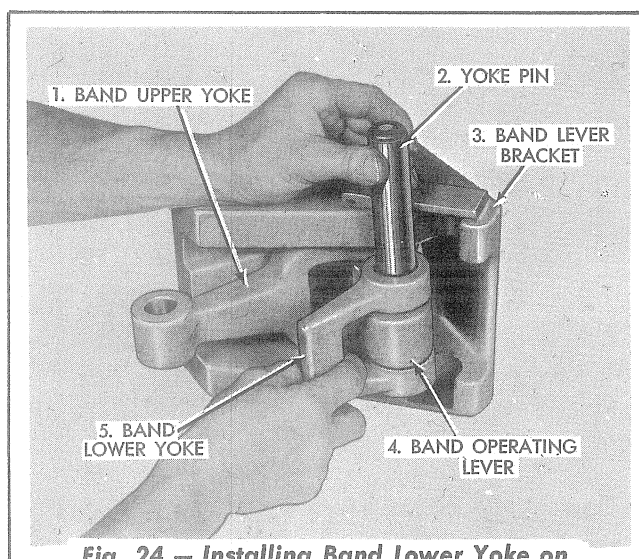

Fig. 24 — Installing Band Lower Yoke on Band Operating Lever
5. Refer to Fig. 24 and install the band lower yoke and yoke pin on the band operating lever as shown.